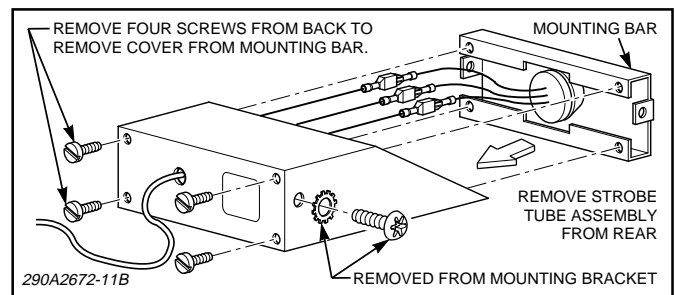

Figure 4.
c. See figure 4. Remove and retain the screws which secure the visor to the mounting bar.